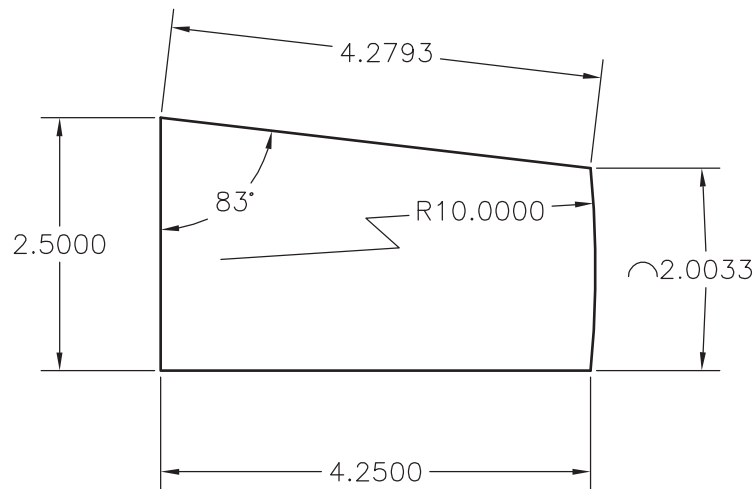

Fig. 27-3
7. Create the arc as shown in Fig. 27-3 by following this procedure:
15. Specify a location for the dimension line; then specify a location for the jog. Undo and recreate the jogged dimension until yours looks like the dimension in Fig. 27-3.